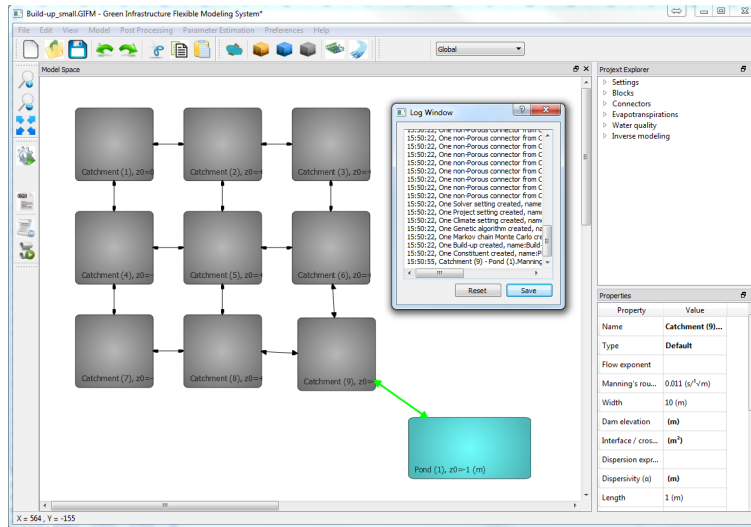

Figure 2: Catchment and pond diagram for the build-up, wash-off example
7. **Adding a Receiving water pond:** In order to impose the down stream boundary condition correctly and also to keep track of the runoff volume and pollutant load leaving the catchment a pond will be added to the model and will be connected to the lowest catchment (lower-right) block. Add a pond  and move it to the lower right side of the screen. Then connect it to the lower right catchment block (Figure 2).